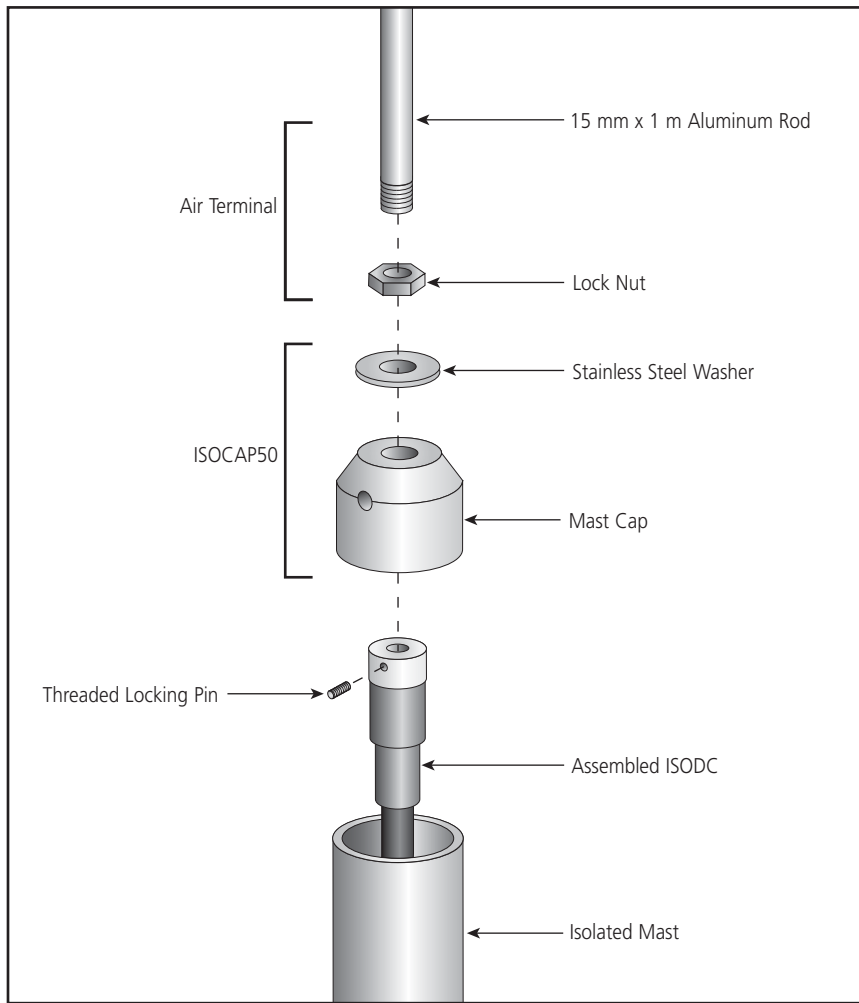

Figure 4. Upper mast arrangement.
- Step 4.** Insert the air terminal thread through pressure washer, ISOCAP50 body and fully screw into upper termination adapter. Refer to **Figure 4**. Ensure that hole for upper termination adapter-air terminal lock nut is aligned with access hole in ISOCAP50 body, tighten air terminal to 4 Nm.